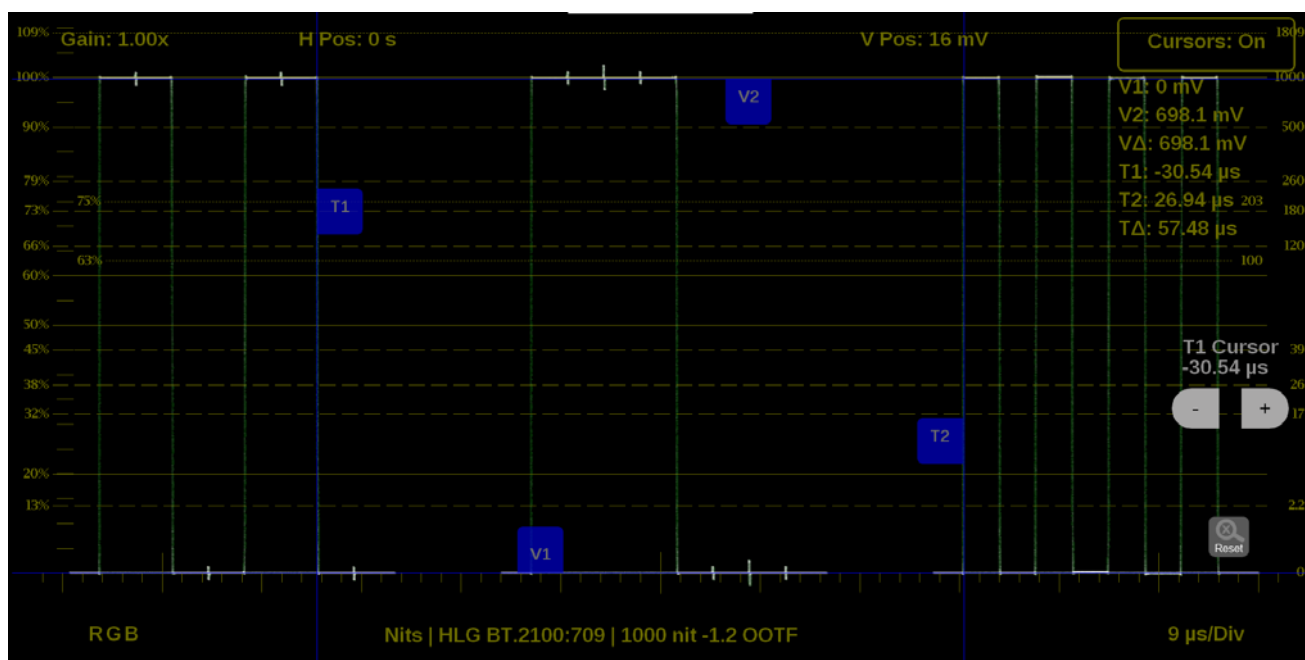

Figure 76: Waveform on-screen tools – time and voltage cursor values and deltas
1. Touch the **Cursors** button to show the time and voltage cursor options. (See Figure 76.)